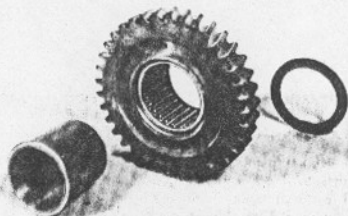

Figure 24 — Rework 1st gear, special thrust washer and needle bearing.
7. Special first gear roller bearing unit (P/N 3965752) consisting of reworked 1st gear, special thrust washers and needle bearing is suggested in place of the production 1st gear. (Figure 24, page 4-12)